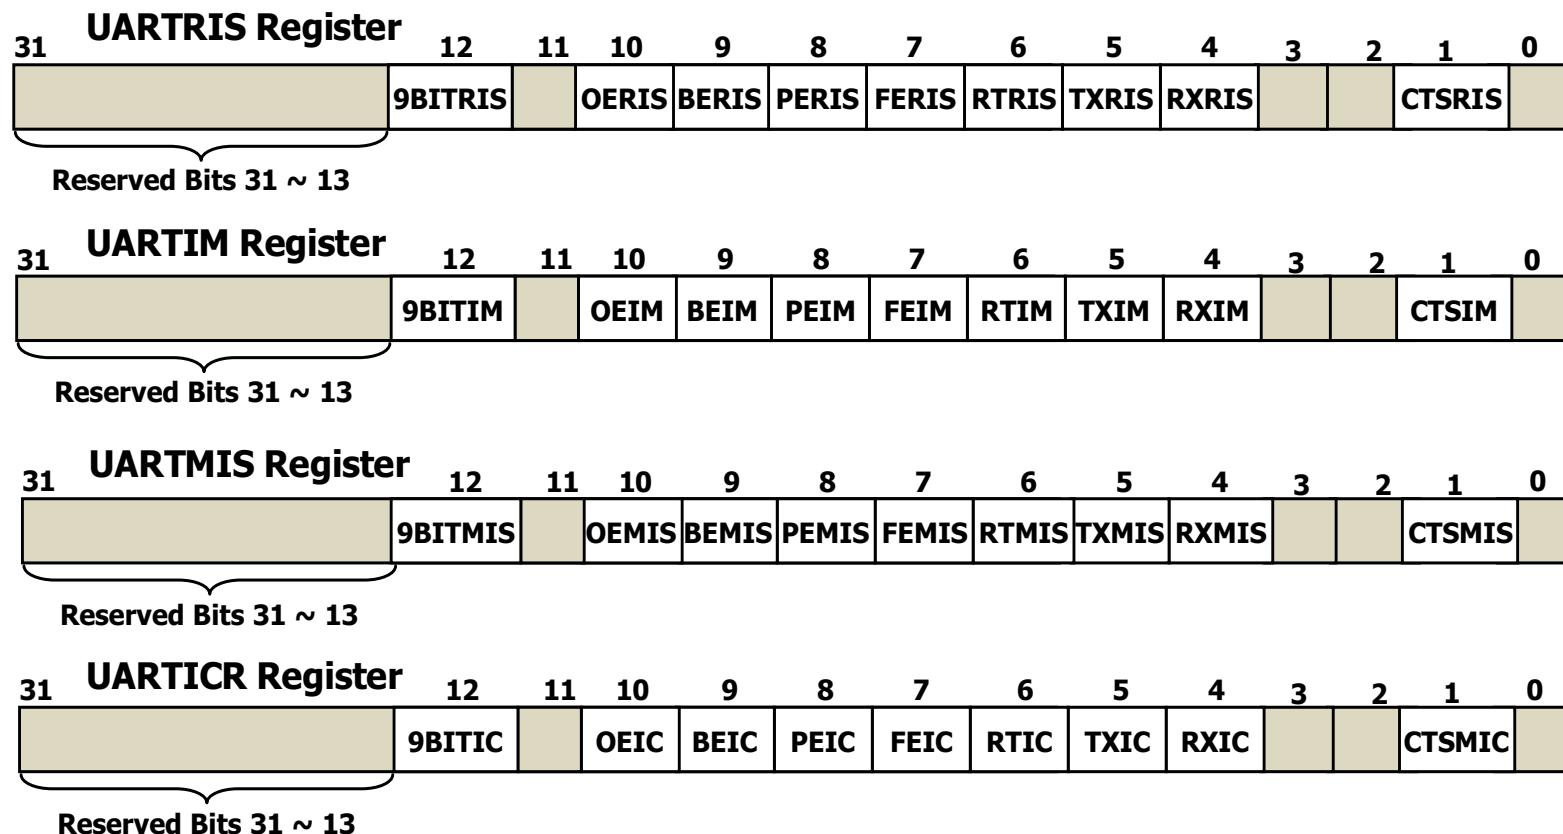

Figure 8.71 Bit configurations for UARTRIS, UARTIM, UARMIS and UARTICR.
- Figure 8.71 (top one) shows the bit configurations for this register.